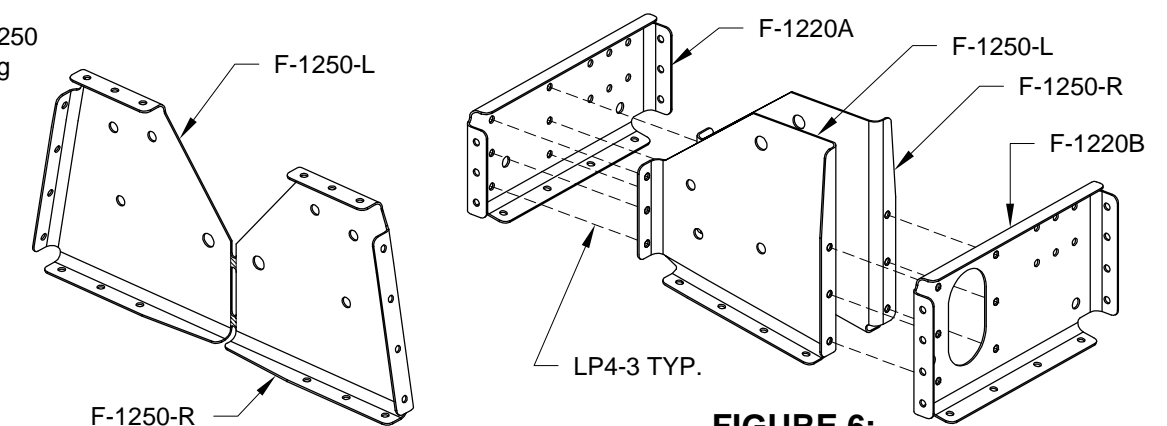

FIGURE 5: SEPARATING THE PULLEY BRACKETS
Step 10: Separate the F-1250 Pulley Bracket by removing the hatched areas shown in Figure 5.